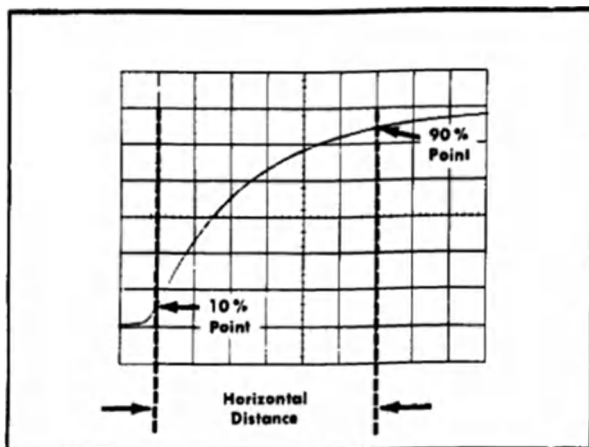

Fig. 2-13. Measuring risetime.
6. Adjust the horizontal POSITION control to move the 10% point of the waveform to the first graticule line. For example with a six division display, the 10% point would be 0.6 division up from the start of the rising portion (see Fig. 2-13).
Example. As an example of this method of measurement, assume that the distance between the 10% and 90% points is 6 divisions (see Fig. 2-13) and the TIME/DIV switch is set to 1 μ SEC with the magnifier on.